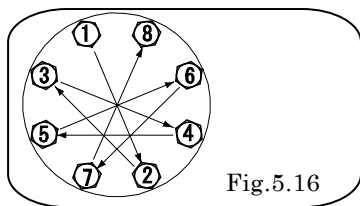

Fig.5.16
- Tighten the bolts gradually in a diagonal sequence with even torque. [Fig.5.16].